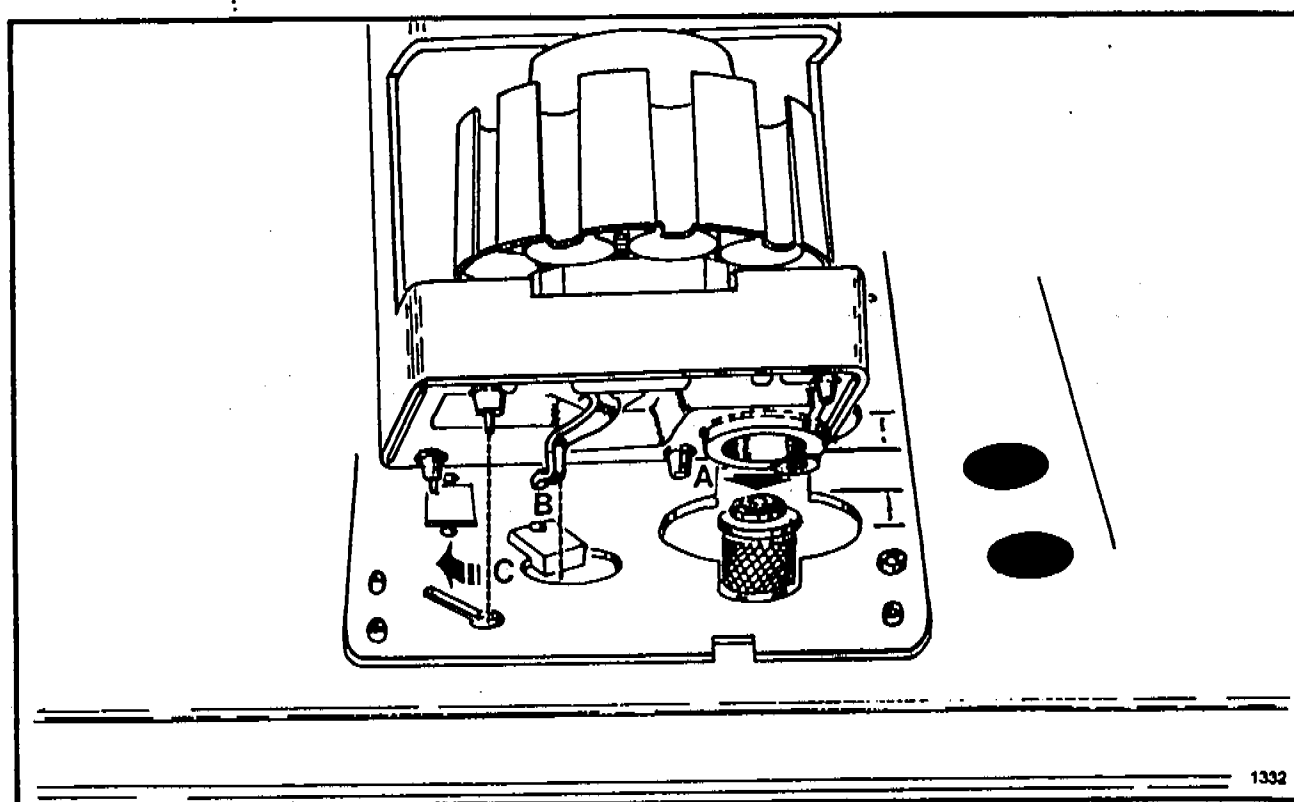

Figure 2-29. Injector Mounting Details, "A" Position
1. Using Figure 2-29 or 2-30 as a guide, position the injector over the injection port. Align the opening in the base of the injector (detail "A") over the septum nut. At the same time align the bayonet type spring clip (detail "B") and the alignment pin (detail "C") with their locating holes in the mounting plate.